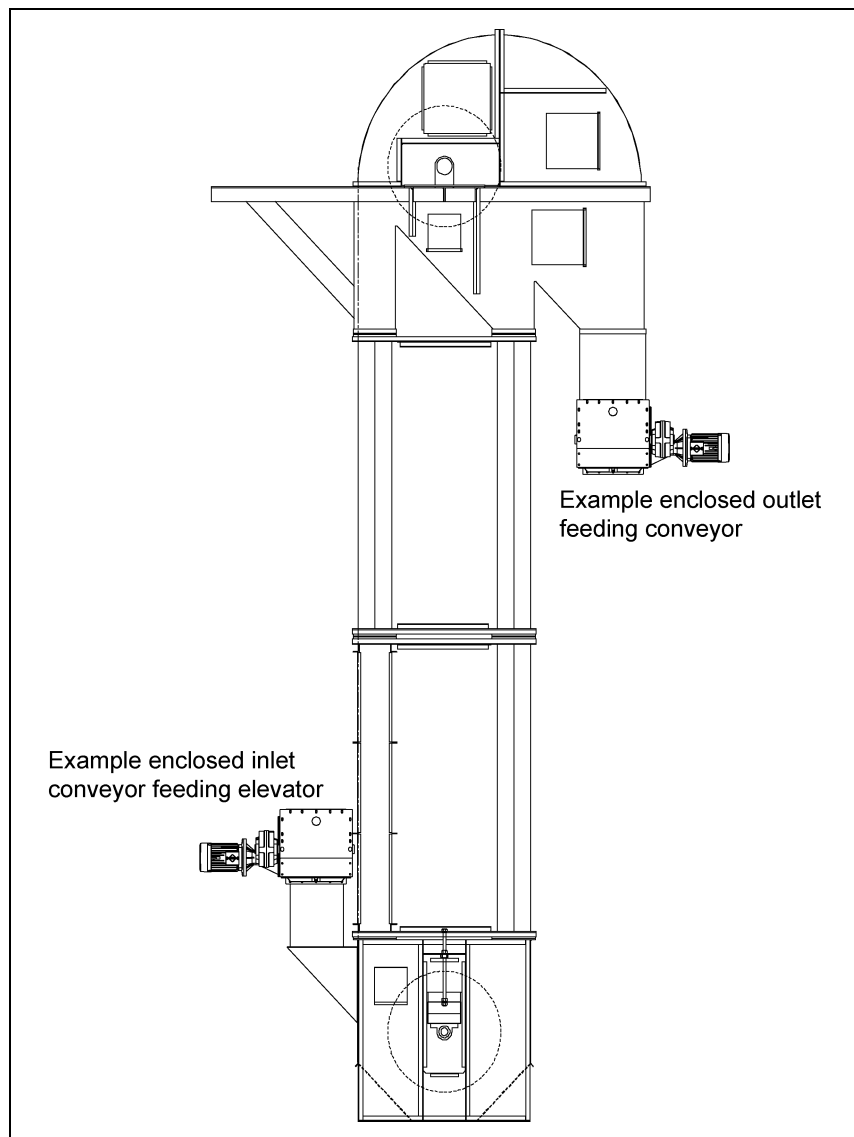

Figure 2A *Example of Enclosed Inlet and Outlet*
2. Never operate the Bucket Elevator without completely enclosing the inlet or outlet, making all moving parts in-accessible to any person. (*See Figure 2A.*)